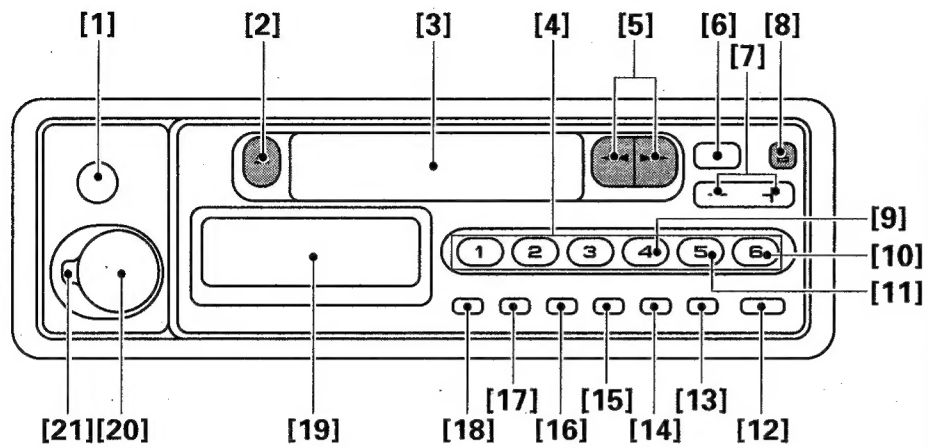

Fig. 1. Abb. 1.
- Fig.1 shows KEH-M4500 and KEH-M4000. The GEH-M2000 does not include buttons [2], [5] and the door [3].
Parts Identification (Fig. 1)
- Do not install the front panel while holding down buttons [2], [5] and [8] in Fig.1. Doing so may destroy the buttons and the main unit.